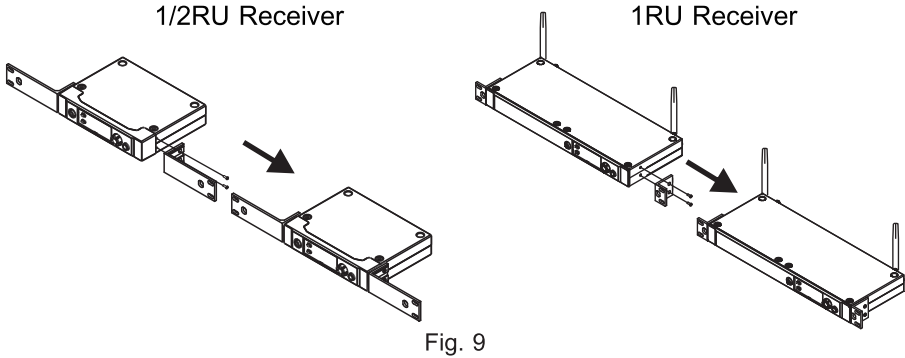

Fig. 9
1. Install and fasten the rackmount kits on the receiver, Fig. 9.